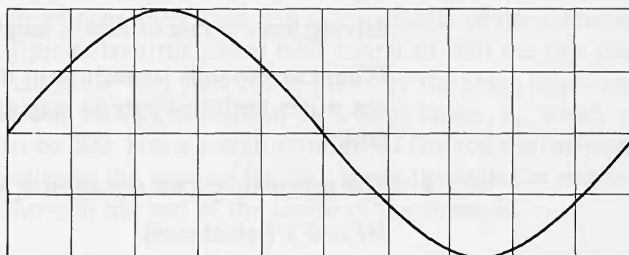

Figure H88
- 30(I)** The p.d. across a $5\ \Omega$ resistor is displayed on an oscilloscope, giving the trace shown in figure H88. The oscilloscope settings were: time-base speed 2 ms per division; voltage sensitivity 5 mV per division.